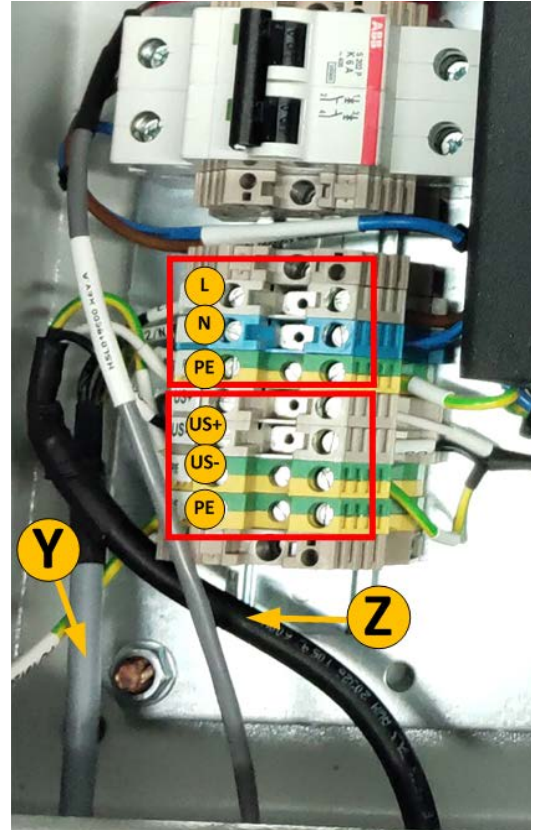

Figure 5-33: Ultrasonic Cleaner Module Terminals
- Step 2.** Connect the Ultrasonic Cleaner **(Z)** cable's White wire to the **US+** port on the Ultrasonic Cleaner Module terminal in **Figure 5-33**.
- Step 3.** Connect the Ultrasonic Cleaner cable's Black wire to the **US-** port on the Ultrasonic Cleaner Module terminal in **Figure 5-33** to the right.